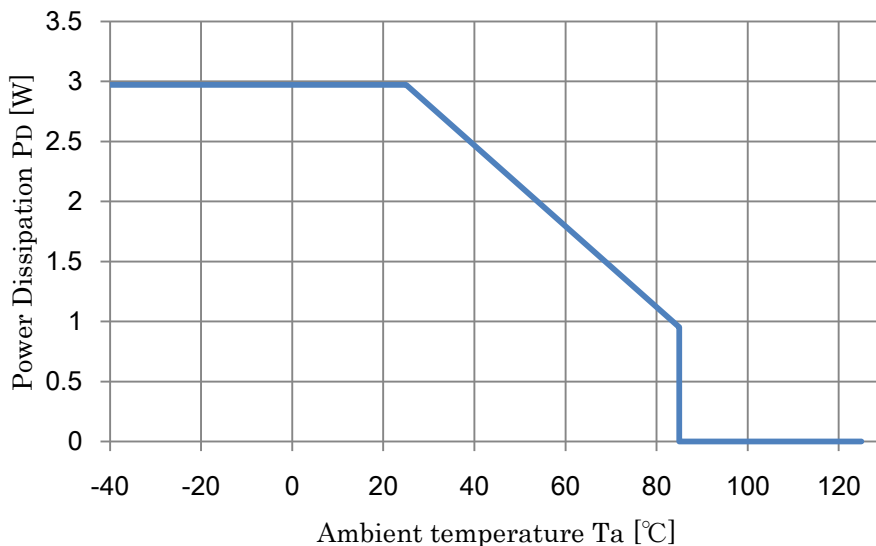

Fig. 4-1 Allowable package power dissipation of NR421A
(5) To be used within the allowable package power dissipation characteristics (Fig4-1).
- 1) Because the Fig4-1 is defined in "PD=2.97[W]" at "Tj=125 [°C]", please keep enough margin when you use.
- 3) Losses can be calculated by the following equation. In addition, efficiency  $\eta_x$  will vary depending on the conditions of the input voltage, output current. By measuring the  $\eta_x$  in the actual operation, assigns a numerical value to the equation (1), as a  $\eta_x$  remain of percent display.